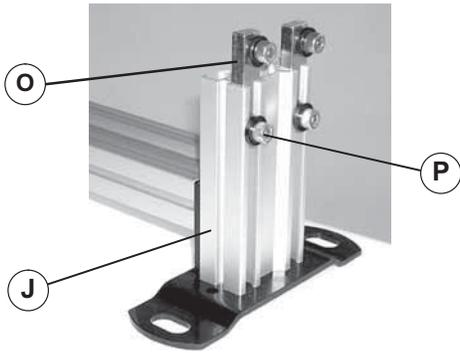
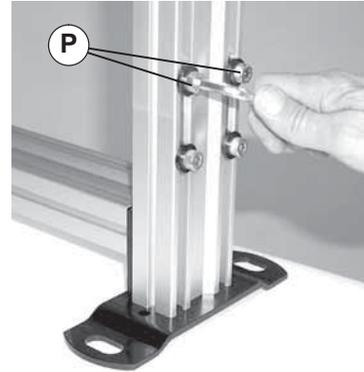

Figure 4
Figure 6
Failure to secure tier joint screws (Figure 4, item P) and (Figure 6, item P) may cause tube joining bar and conveyor sections to drop down, causing severe injury.
4. Install tube joining bar assembly (Figure 4, item O) at top of leg on base assembly (J). Half of tube joining bar assembly must extend above leg, as shown. Tighten screw (P) to 130 in-lbs (15 Nm).
7. Tighten screws (Figure 6, item P) to 130 in-lbs (15 Nm).